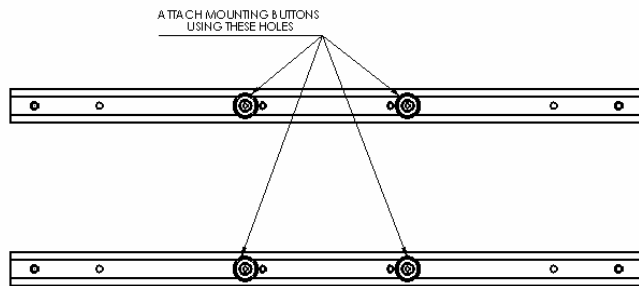
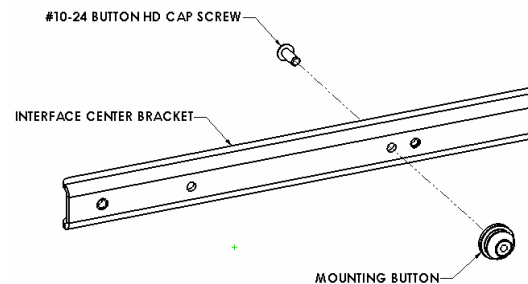

Figure 2
Figure 3
- Using #10-24 screws secure mounting button (hex key provided), with chamfered hole of mounting button (larger surface) facing bracket, to bracket (4 places) (see Figure 2 and Figure 3).